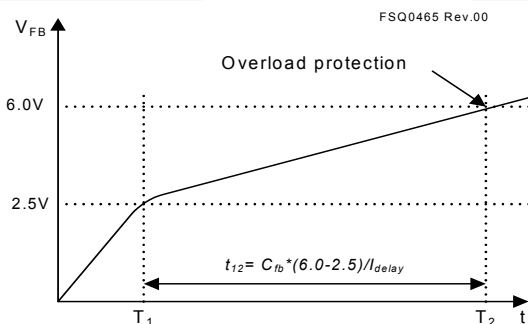

Figure 29. Overload Protection
**4.1 Overload Protection (OLP):** Overload is defined as the load current exceeding its normal level due to an unexpected abnormal event. In this situation, the protection circuit should trigger to protect the SMPS. However, even when the SMPS is in the normal operation, the overload protection circuit can be triggered during the load transition. To avoid this undesired operation, the overload protection circuit is designed to trigger only after a specified time to determine whether it is a transient situation or a true overload situation. Because of the pulse-by-pulse current limit capability, the maximum peak current through the SenseFET is limited, and therefore the maximum input power is restricted with a given input voltage. If the output consumes more than this maximum power, the output voltage ( $V_O$ ) decreases below the set voltage. This reduces the current through the opto-coupler LED, which also reduces the opto-coupler transistor current, thus increasing the feedback voltage ( $V_{FB}$ ). If  $V_{FB}$  exceeds 2.5V, D1 is blocked and the 5 $\mu$ A current source starts to charge  $C_B$  slowly up to  $V_{CC}$ . In this condition,  $V_{FB}$  continues increasing until it reaches 6V, when the switching operation is terminated, as shown in Figure 29. The delay time for shutdown is the time required to charge  $C_{FB}$  from 2.5V to 6V with 5 $\mu$ A. A 20 ~ 50ms delay time is typical for most applications.